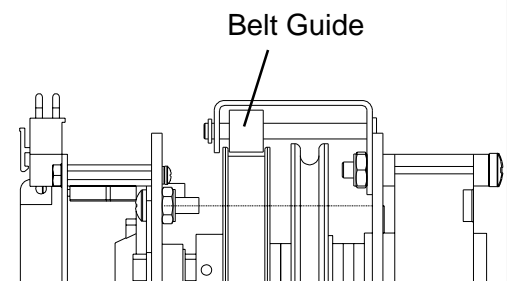

Figure 12b - Guide installation
4. Reinstall belt guide so the plastic roller makes light contact with the belt. Figure 12b.